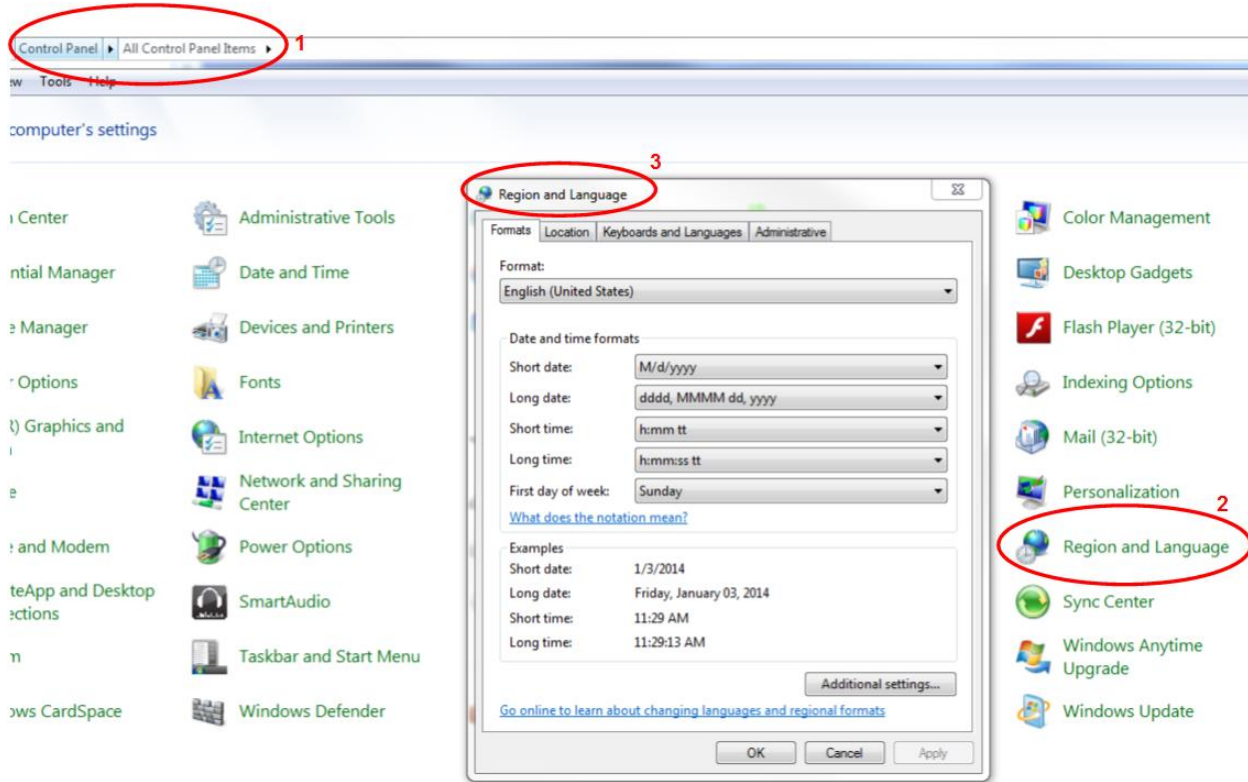

Figure 304: Region and Language Selection
2. When the Computer Settings window displays, click on the Region and Language selection (labeled 2 in Figure 304). This causes the Region and Language window to display (labeled 3 in Figure 304).